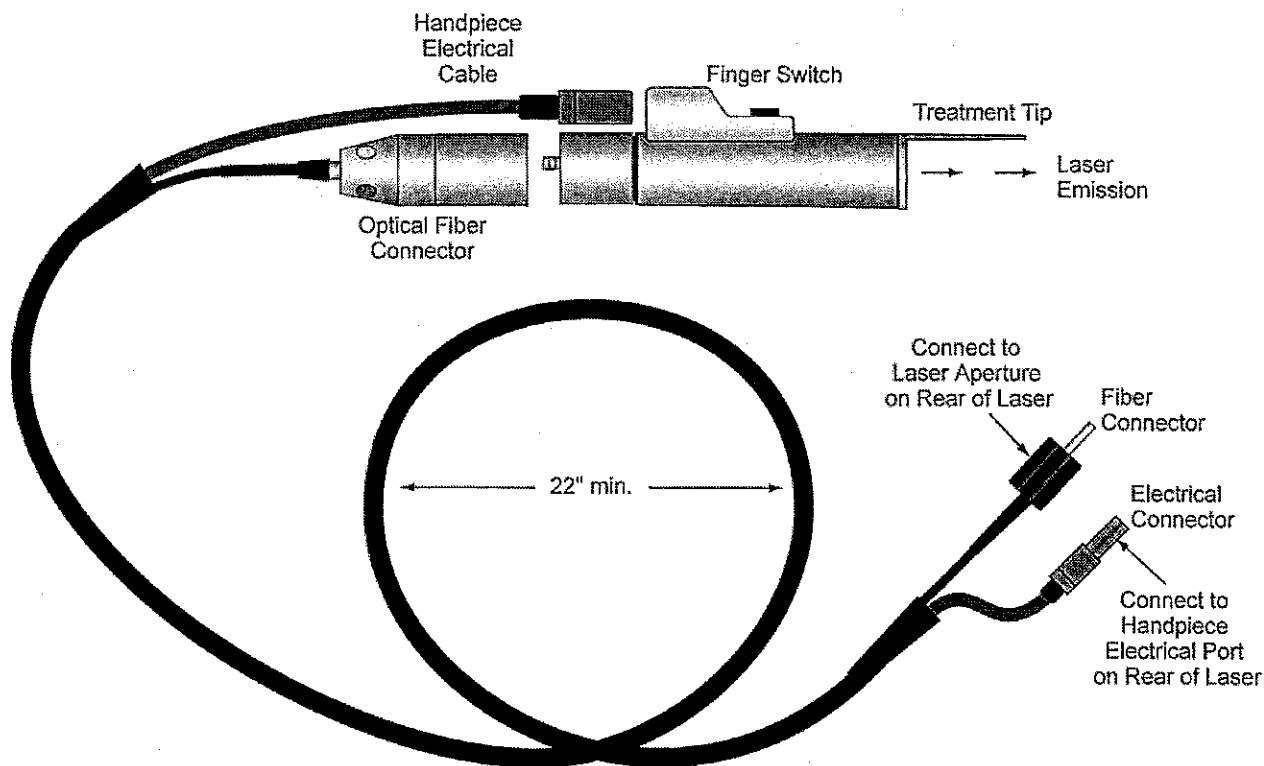

Figure 3—Handpiece
To change handpieces, remove the optical fiber connector to disconnect the fiber from the handpiece, see **Figure 3**. Then disconnect the handpiece electrical cable by pulling it from the handpiece. Connect the new handpiece, and then reconnect the handpiece electrical cable. The laser must be calibrated before initiating treatment with a new handpiece.
- ◆ The Finger Switch, an electrical switch located on the handpiece, as shown in **Figure 3**.